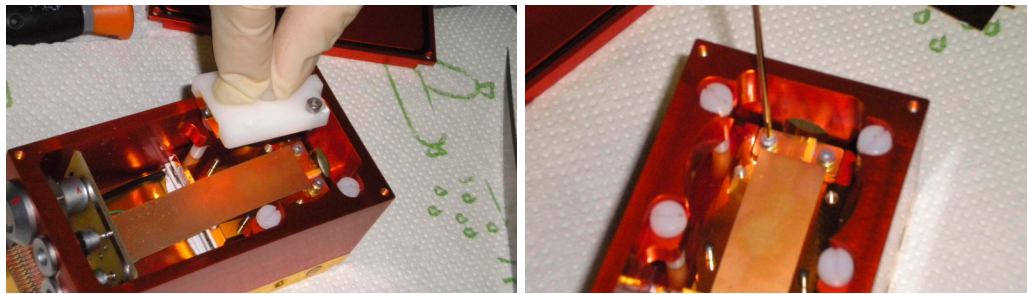

Figure 5.26.: Laser exchange procedure: removing the contact set (left), securing the laser submount (right).
2. remove the two screws (3) holding the contact set (4) using a 2mm hex key
3. remove the contact set using the central PET4 knob, as show in figure 5.26.
4. remove the two screws holding the laser submount using a 1.5 mm hex key, as show in figure 5.26